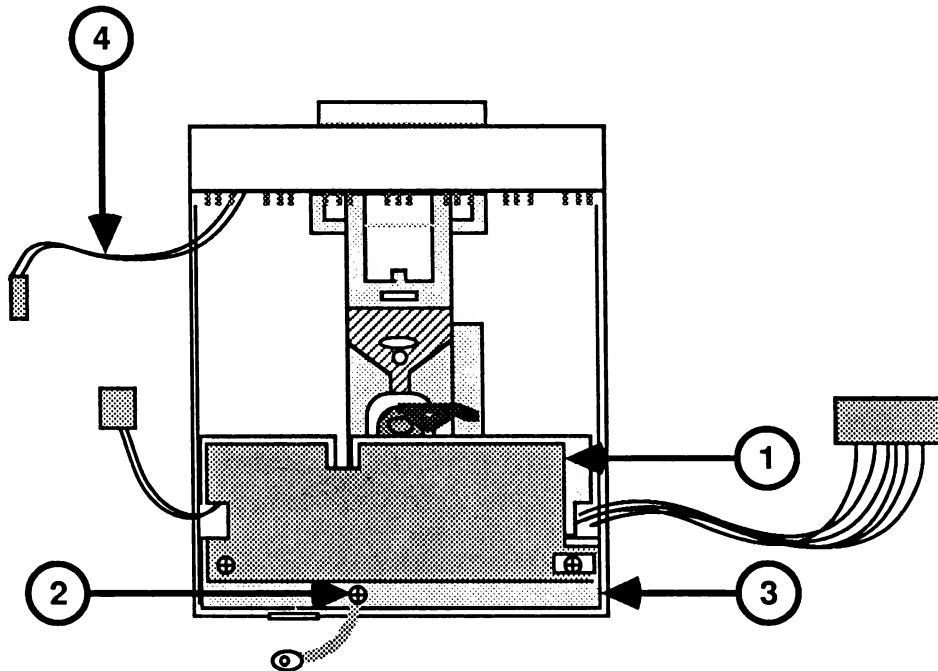

FIGURE 8
2. Remove the black insulation paper (Figure 8, #1).
3. Remove the Phillips screw (Figure 8, #2) that secures the ground strap to the chassis. Set the ground strap aside.
4. Lift off the metal shield (Figure 8, #3) and set aside.
5. Grasp the LED wires (Figure 8, #4) as close to the front bezel as possible and pull the LED lamp out of the front bezel.
3. Replace the metal shield (Figure 8, #3), routing the cables through the cutouts at the sides of the shield. (See Figure 8.)
4. Place the black insulation paper (Figure 8, #1) on the metal shield as shown in Figure 8.
5. Replace the Phillips screw (Figure 8, #2) to secure one end of the ground strap to the chassis.